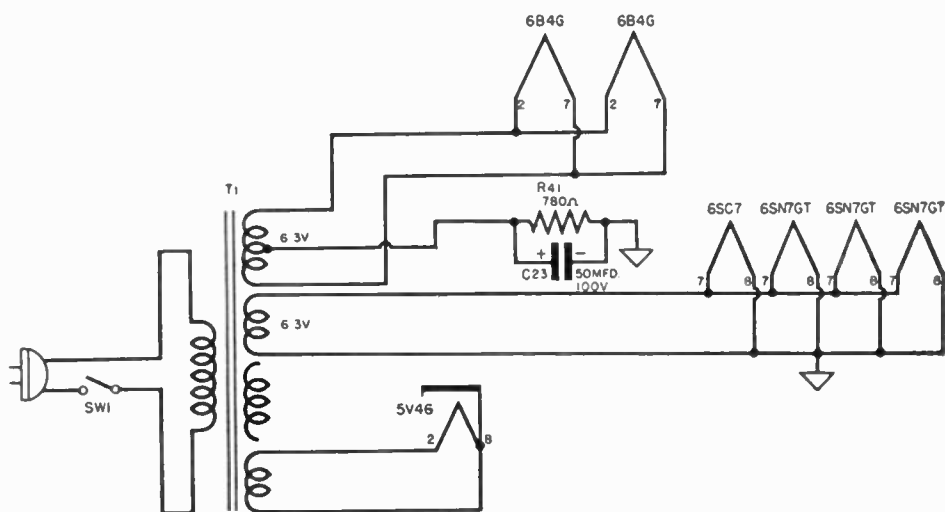

Fig. 5-22. Heater circuit for seven-tube amplifier.
a) *Heater Circuit.* See Figure 5-22.